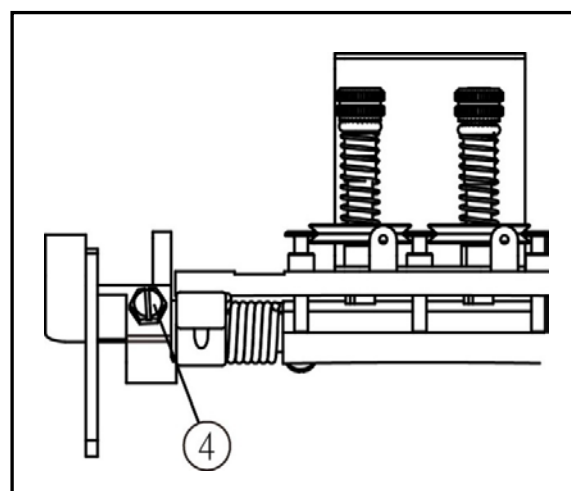

Fig. 12
- (1) Loosen the screw ④ of the presser bar lifter lever (large).(Fig. 12)